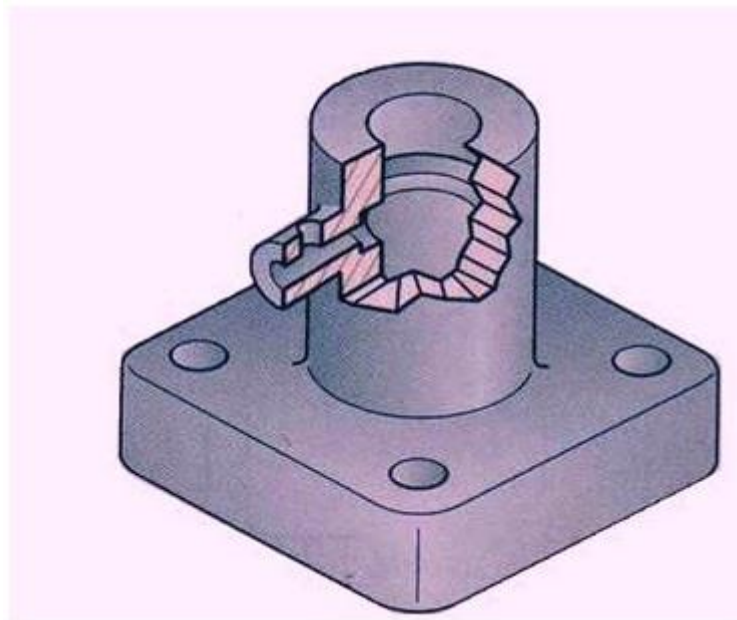

Figure 4. Illustrating a Broken-out Section
- (d) **Broken-out section** where the section goes through part of the object. Example shown in figure 4